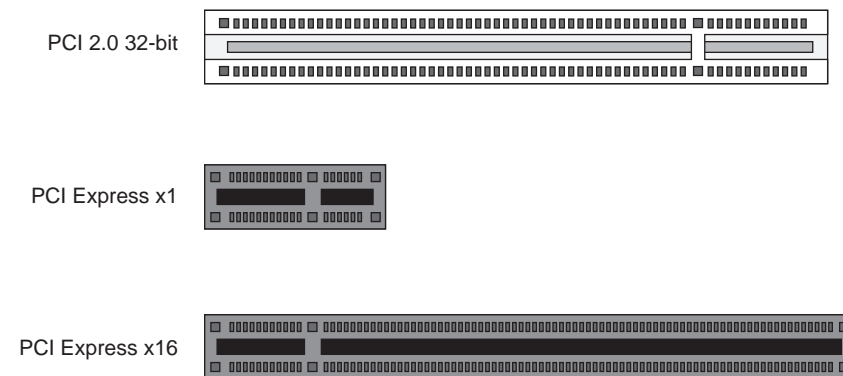

Figure 5-1 Comparison of PCI/PCI-X Connector with PCI Express Connectors
- PCIe hardware connectors are not compatible with PCI/PCI-X, (see Figure 5-1)